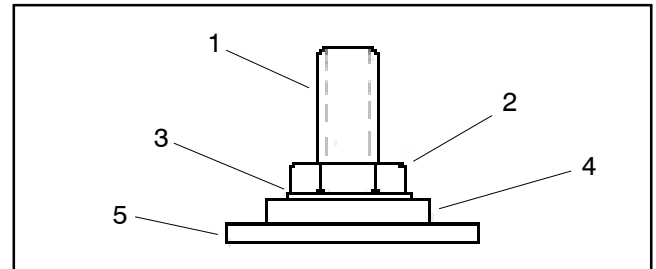

Figure 62
8. Make sure that lower nuts are properly tightened on traction motor terminals (Fig. 62 and 63). Lower nuts on F1 and F2 terminals should be torqued from **50 to 60 in-lb (5.7 to 6.8 N-m)**. Lower nuts on A1 and A2 terminals should be torqued from **110 to 140 in-lb (12.4 to 15.8 N-m)**.